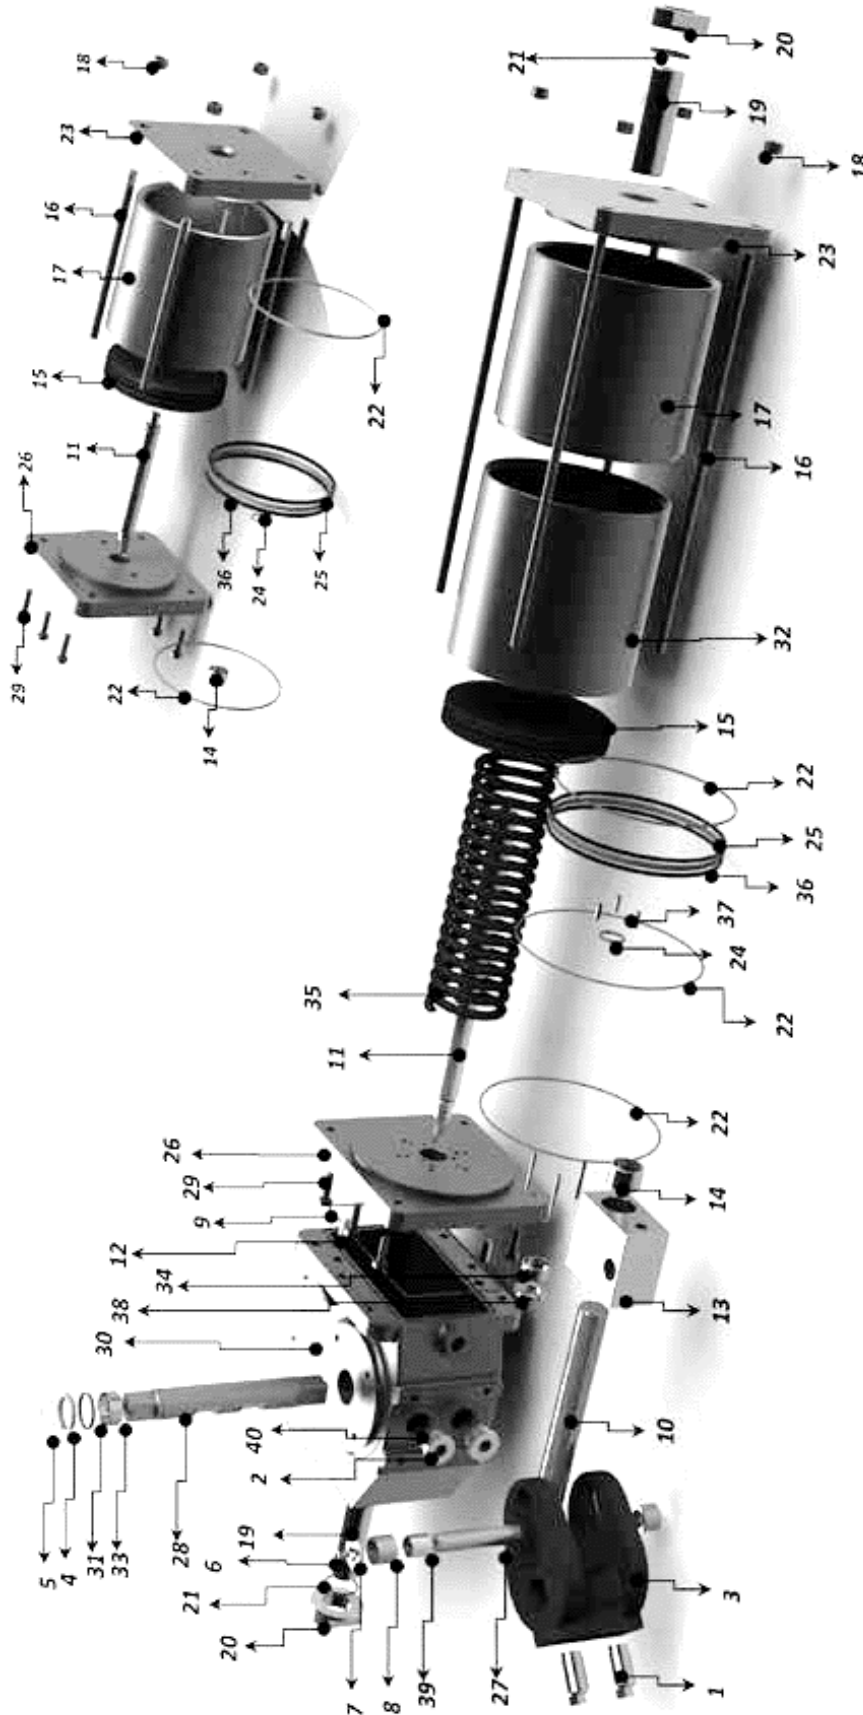

Figure 24: LPC Single Acting Exploded View
The LPC Series actuator is available in two different configurations, single acting and double acting, composed by the main parts shown in Figure 24. Before proceeding with other disassembling activities, perform the following preliminary steps.
- 4.4.3. The reference drawings for the instructions reported in the following paragraphs are the exploded views of single acting and double acting actuators, included as Figures 24, 24a and 24b.
NOTE: In the LPC Compact Actuator Series, in single acting execution, the spring is located inside the pneumatic cylinder, as shown in Figure 24.